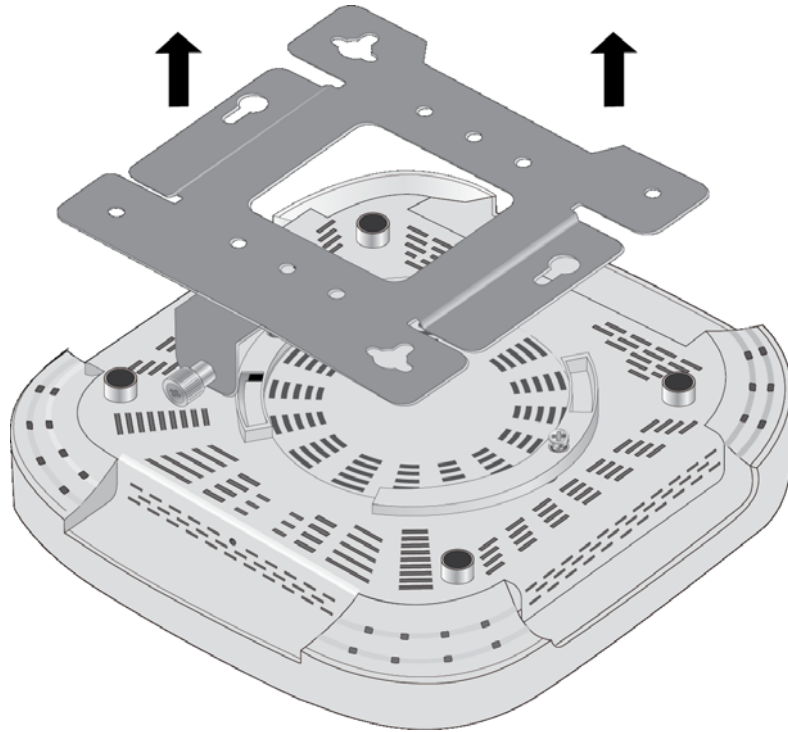

Figure 17. Removing the Mounting Bracket from the Wireless Access Point
5. Slide the mounting bracket forward and remove it from the device. Refer to Figure 17.